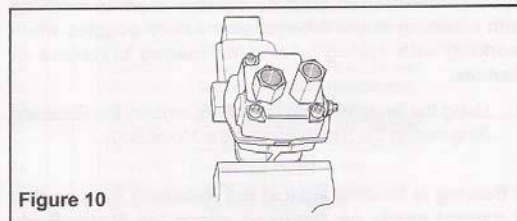

Figure 10
- Remove the Mounting Flange from the Motor body and place Hydraulic Motor in vise (Figure 10).
- Remove Tank Port Adapter and Pressure Port Adapter with large crescent wrench or 1-1/16" box end wrench (See Figure 10).
- Using a 9/16" box end wrench, loosen the Nut on the Bypass Adjusting Screw (See Figure 10).
- Using a 1/4" Allen wrench, remove the Socket Head Cap Screws from the Motor End Plate (See Figure 10).